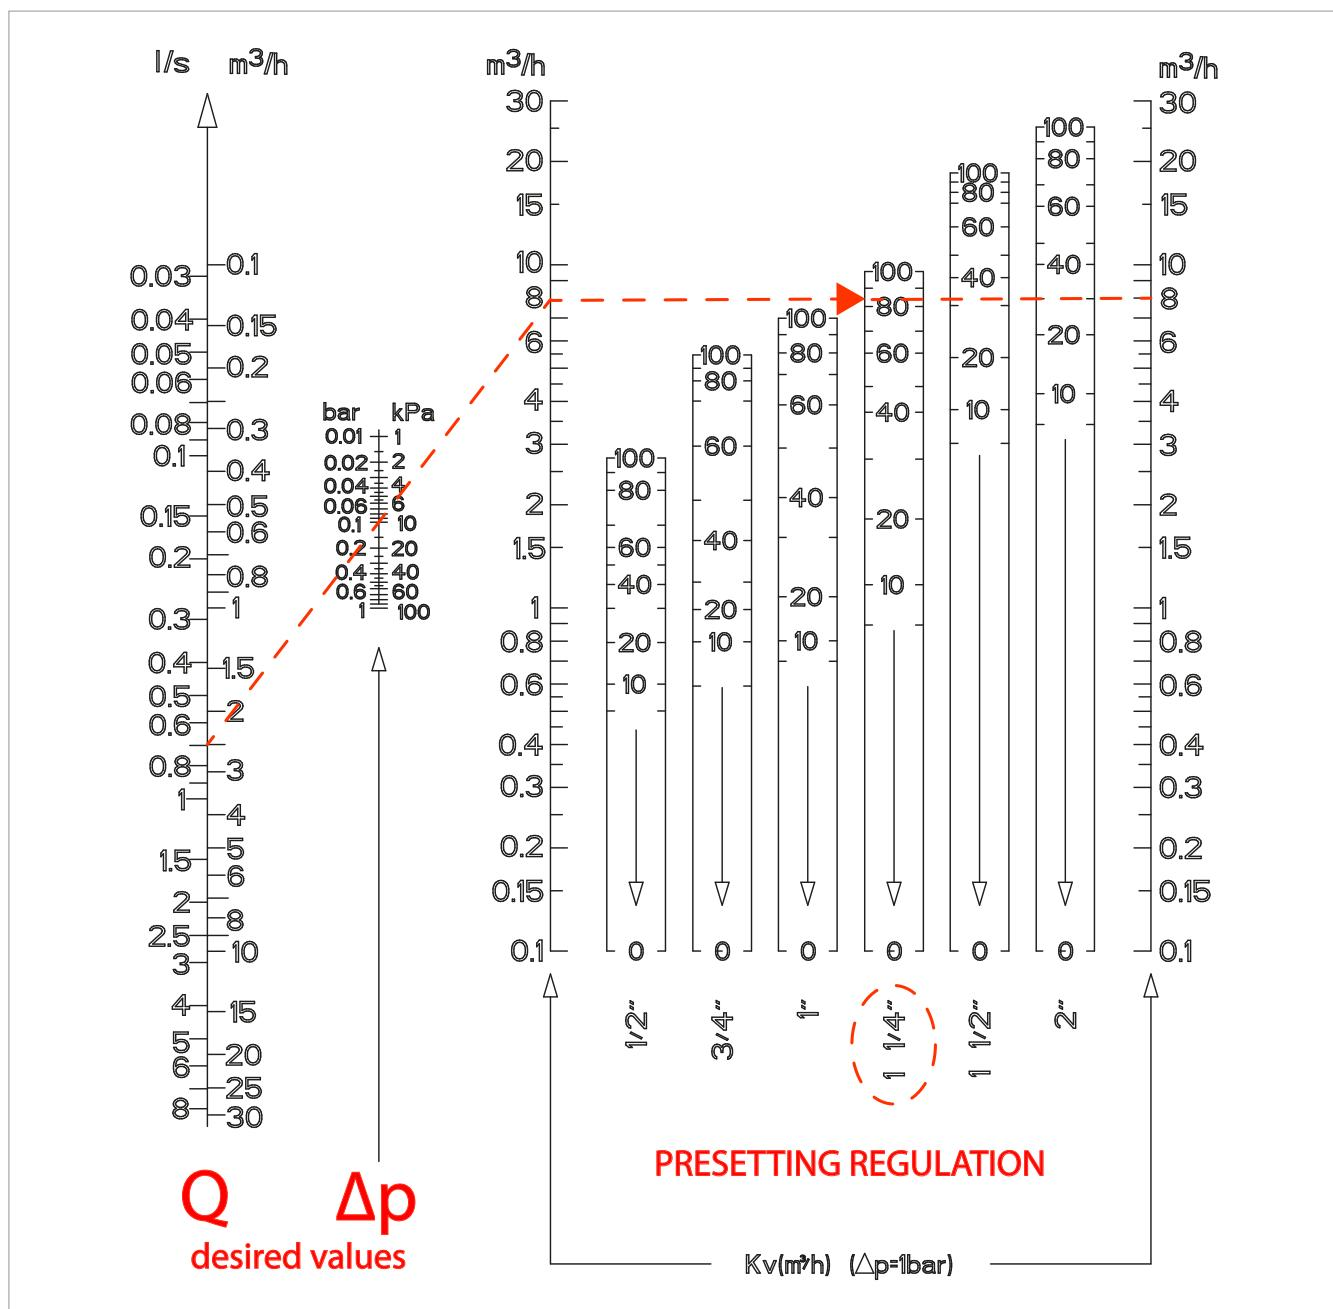

Fig. 3
- Through the diagram of figure 3, determine the regulation to be carried out to obtain the desired flow rate  $Q$  depending on the differential pressure  $\Delta p$  according to the valve size.